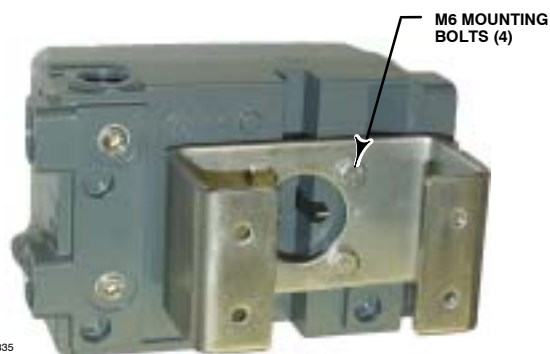

Figure 2-11. For Rotary Actuators (with Typical Mounting Bracket Shown)
3. Attach the digital valve controller to the mounting bracket using the 4 mounting bolts, as shown in figure 2-11.
The DVC2000 digital valve controller can be mounted to any quarter-turn (rotary) actuator, as well as those that comply with the NAMUR guidelines. A mounting bracket and associated hardware are required. Refer to figure 2-11.